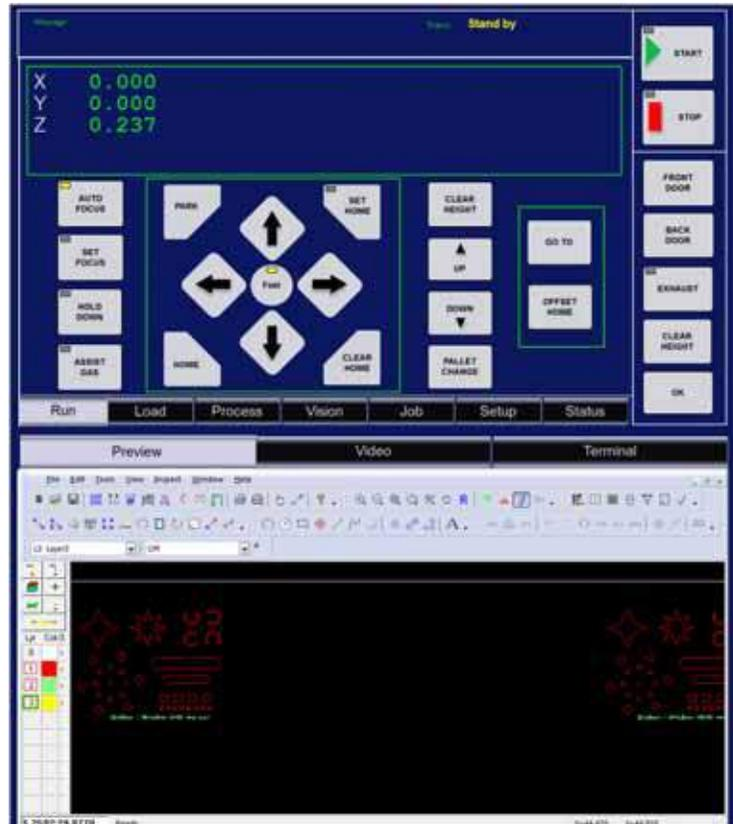

Figure 4-3. HMI Connecting and Loading Parameters
6. The HMI will display a start-up screen while it connects to the META 10C system (See Figure 4-3).